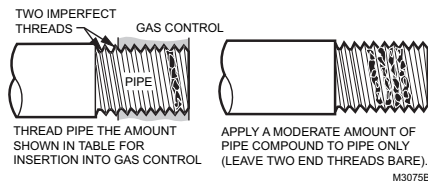

Fig. 1. Use moderate amount of pipe compound.
2. Apply a moderate amount of good quality pipe compound to the bushing, leaving two end threads bare. See Fig. 1. On an LP installation, use compound that is resistant to LP gas. Do not use Teflon tape.
- 4. Apply a moderate amount of good quality pipe compound (do not use Teflon tape) to pipe only, leaving two end threads bare. See Fig. 1. On LP installations, use compound resistant to LP gas.